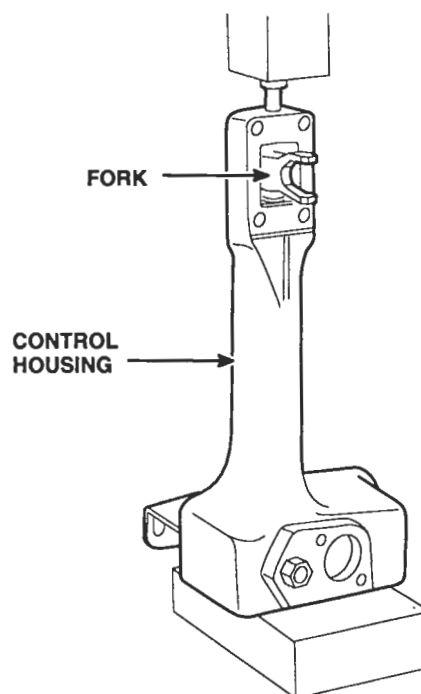

Figure 6. Operating Fork Removal from Operating Shaft
- h. Support the control housing (Figure 6.) Press the operating shaft from the operating fork using a brass rod. Withdraw the operating shaft, operating lever, and bearing as an assembly from the control housing.